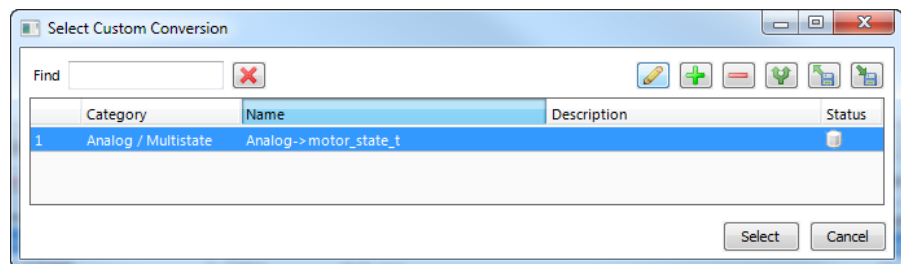

Figure 39: Choose a custom conversion.
8. To add a new conversion to this item, click on the  button. A dialog opens, which displays the matching adaptors already available in the library as shown in Figure 39.